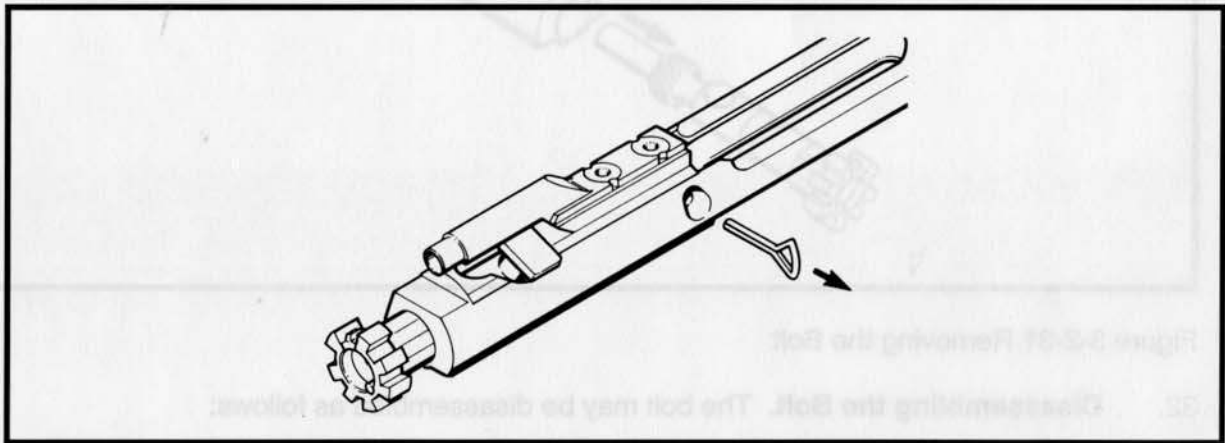

Figure 3-2-29 Removing the Firing Pin Retaining Pin
- a. Using a suitable punch, push the firing pin retaining pin out of the bolt carrier. See Figure 3-2-29;